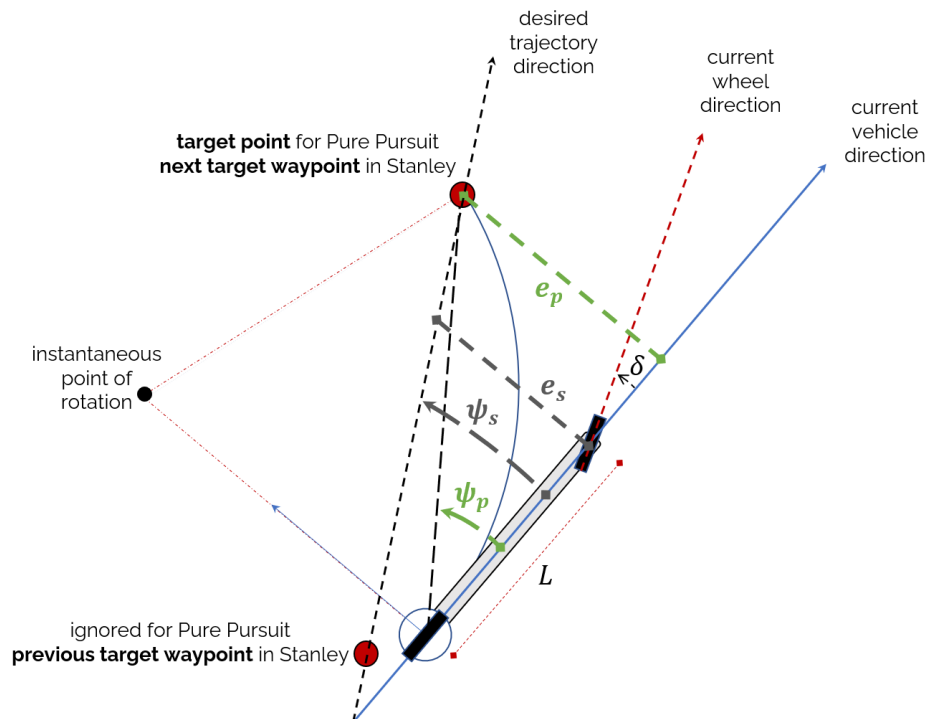

Figure 4: Geometric diagram comparing heading and cross track error definitions in a pure pursuit controller versus a Stanley controller implementation
In this situation, the heading error and cross-track error definitions change slightly, as illustrated in Figure 4. In the pure pursuit controller:
- Cross track error  $e_s$  – the shortest distance from the front axle reference point to the line joining the previous/next target waypoints. It is vital to understand these differences, and as such, are illustrated in Figure 4 for clarity.